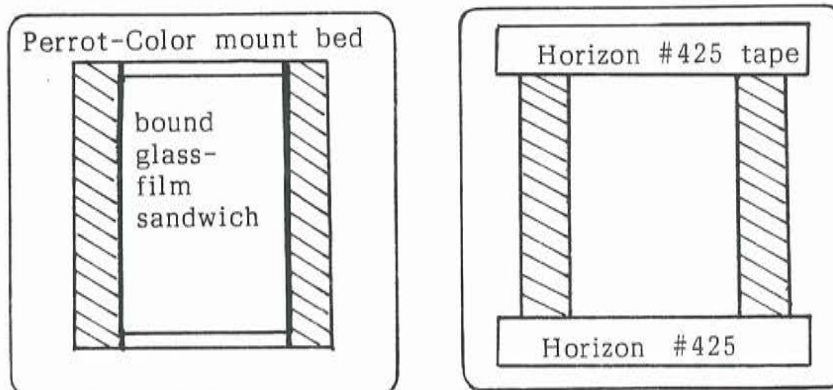

Figure 11. Left: Bound glass-film sandwich fitted into mount bed. Right: Short sides of glass-film sandwich covered with metallic tape.
6. Drop the glass-film sandwich into the interior indentation ("bed") of the mount (Fig. 11, Left). Using 1/4-inch polyester metallic tape, cover the short (open) sides of the glass-film sandwich (Fig. 11, Right); press the tape firmly to seal.